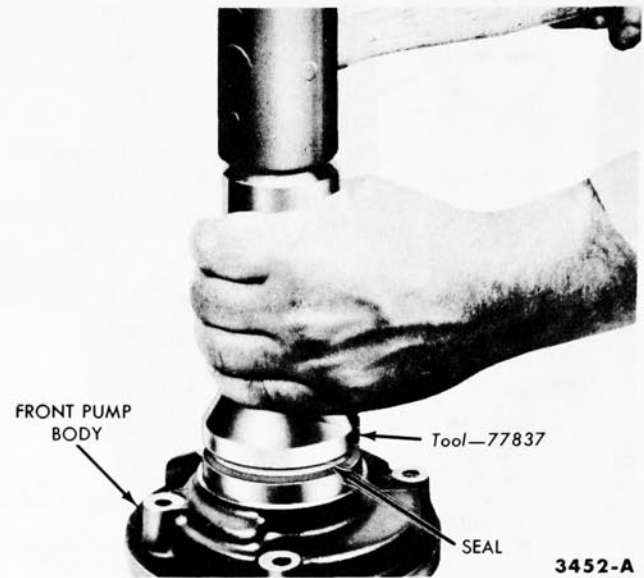

FIG. 18—Front Seal Installation
12. Coat the outer diameter of a new seal with FoMoCo Sealing Compound, or its equivalent, then position the seal in the pump body. Drive the seal into the pump body with the tool shown in Fig. 18 firmly seated in the body.